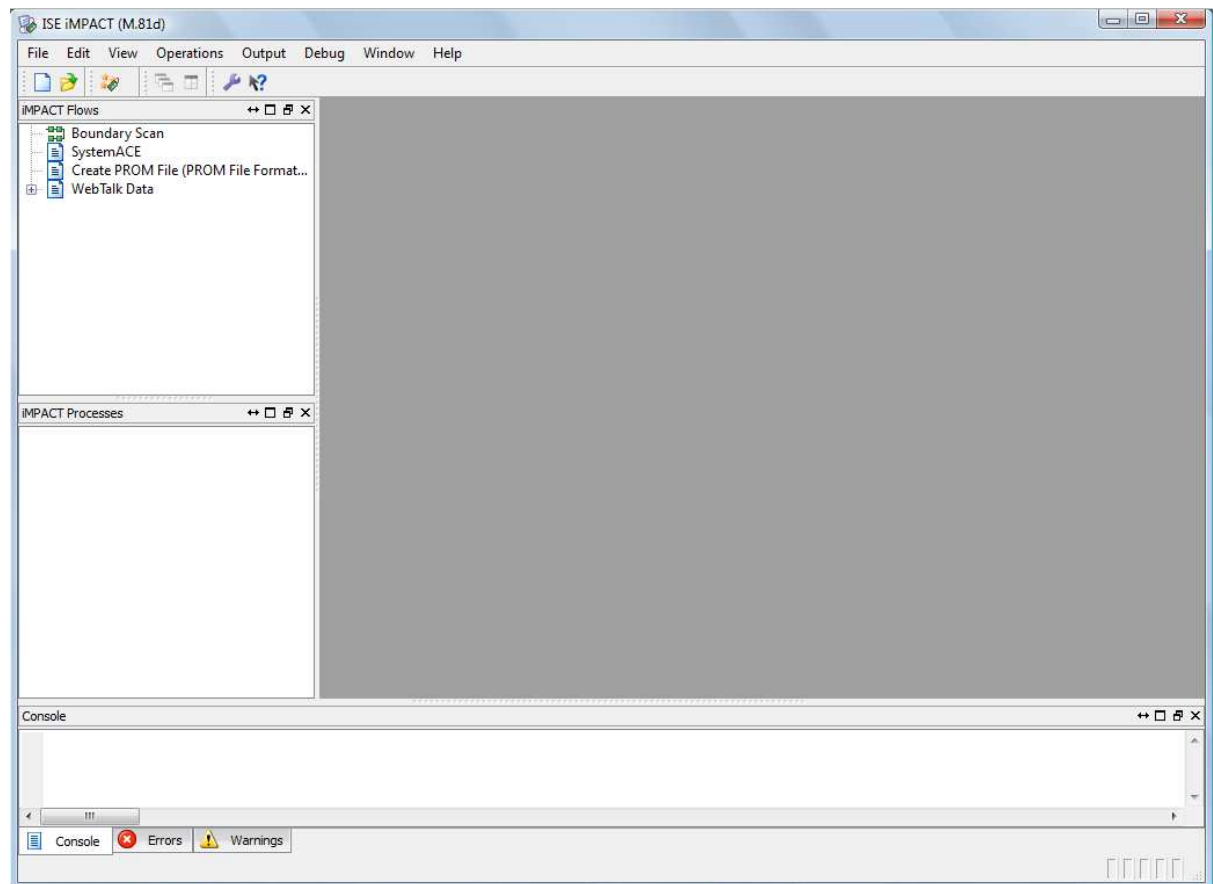

Figure 5.38: The initial iMPACT window.
4. Double-click on **Manage Configuration Project (iMPACT)**. The iMPACT window should appear as shown in Figure 5.38.